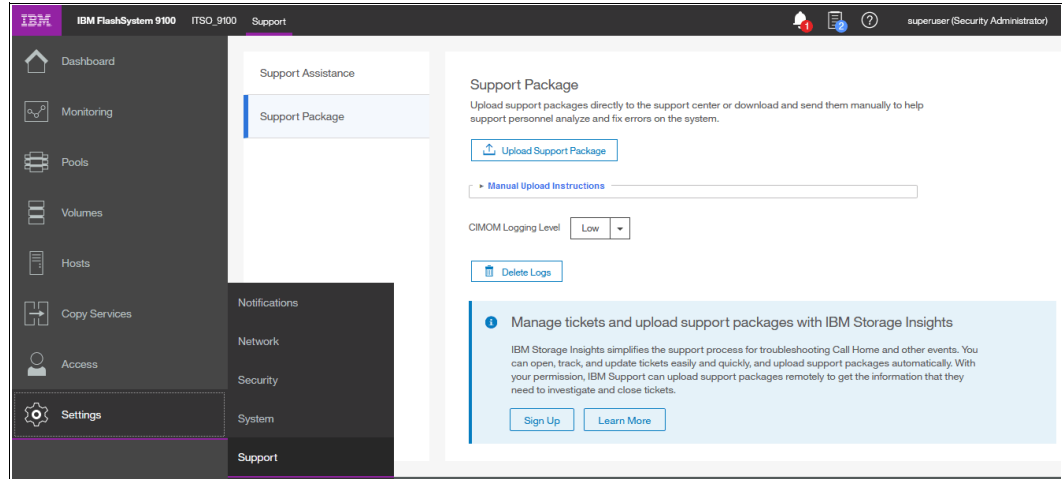

Figure 7-73 Support Package option
1. Click **Settings** → **Support** and the **Support Package** tab (Figure 7-73).